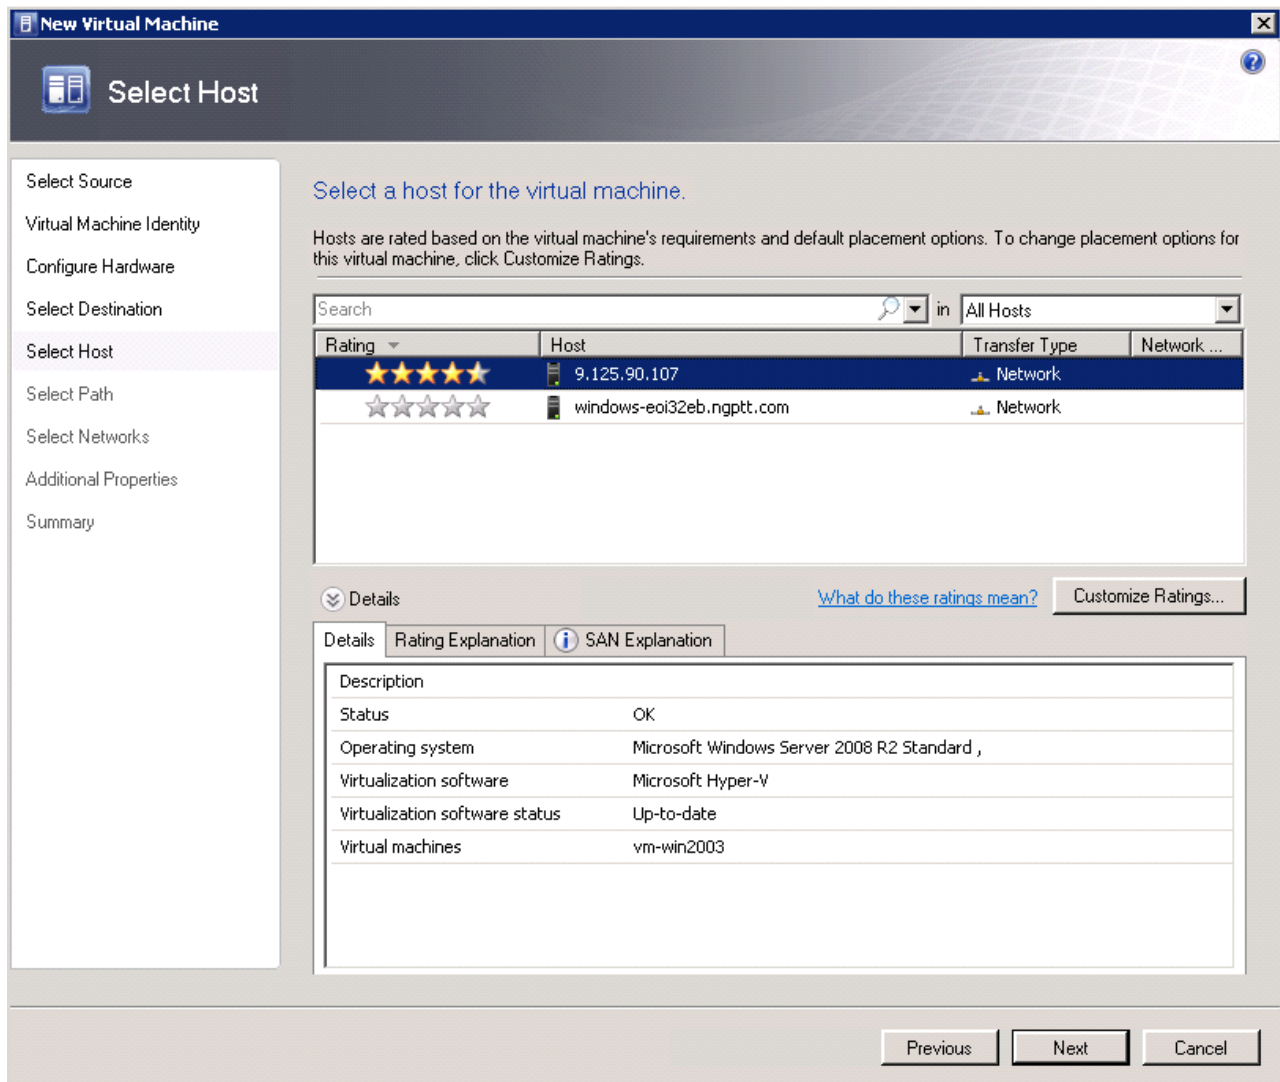

Figure 3-17 New Virtual Machine wizard: Select Host
13. In the Select Host window, select the destination server that functions as the host, as shown in Figure 3-17. Click **Next**.